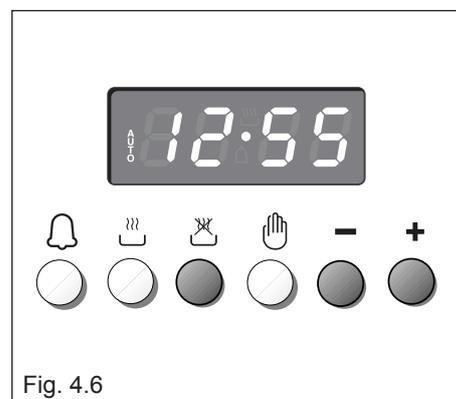

Fig. 4.6
2. Set the end of the cooking time by pressing the 🗑️ button (the cooking time already added to the clock time will appear), and the + button (fig. 4.6); if you pass the desired time you may get back by pushing the — button.